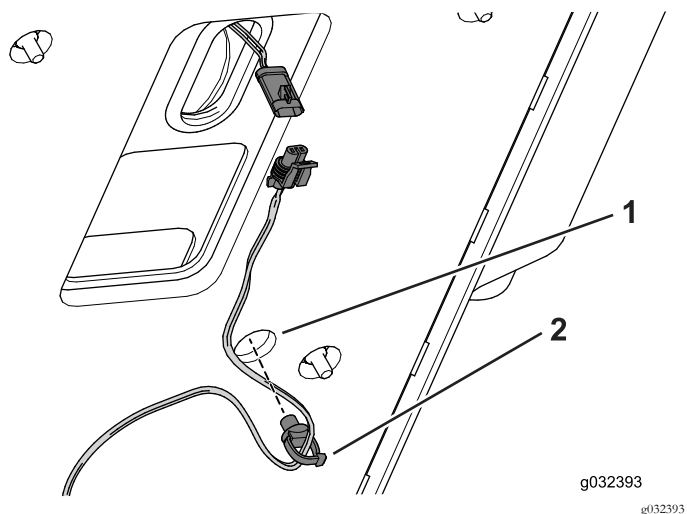

Figure 4
6. Install the wire clip to the bottom of the seat plate (Figure 4).
7. Connect the seat switch to the wire harness (Figure 4).